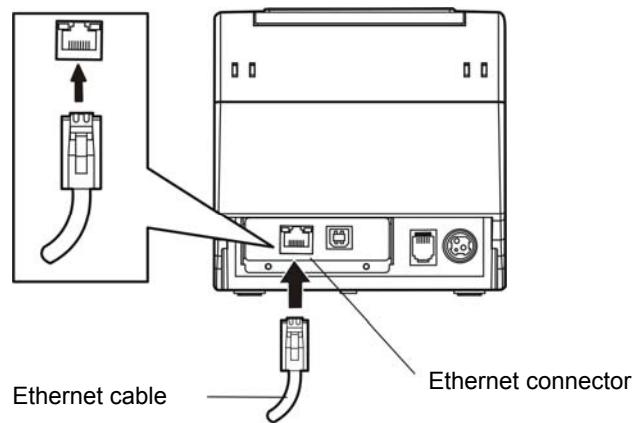

Fig2-6 Connecting the Ethernet cable
1. Plug the crystal end of the Ethernet cable (RJ-45) into the printer's Ethernet connector as shown in Fig2-6.